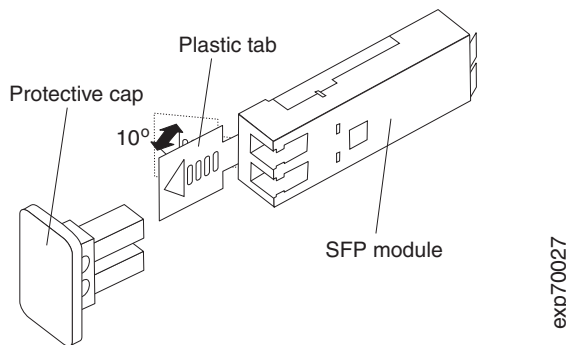

Figure 22. Unlocking the SFP module latch - plastic variety
- For SFP modules that contain plastic tabs, unlock the SFP module latch by pulling the plastic tab outward 10°, as shown in Figure 22.